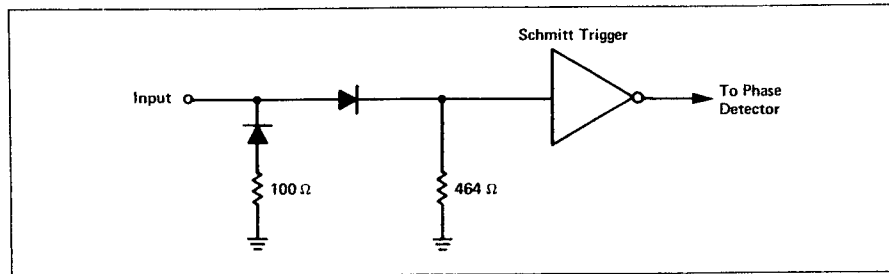

Figure 14. Schmitt Trigger Input Shaper Circuit for TTL Inputs.
2. If a digital phase detector is tested, a circuit similar to that in Figure 14 could be used to convert the 8660 sine wave to digital pulses.